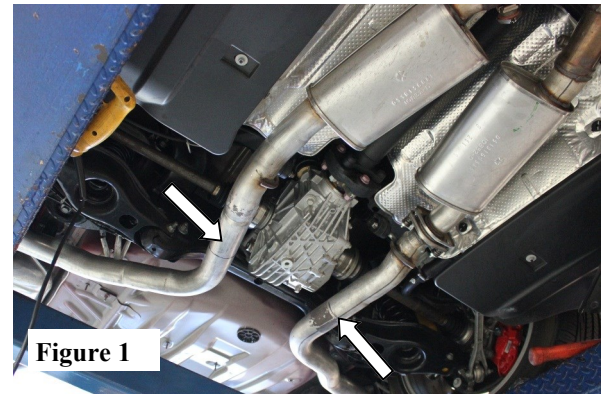

Figure 1
2. Rear mufflers need to be cut here. (See Fig. 1)